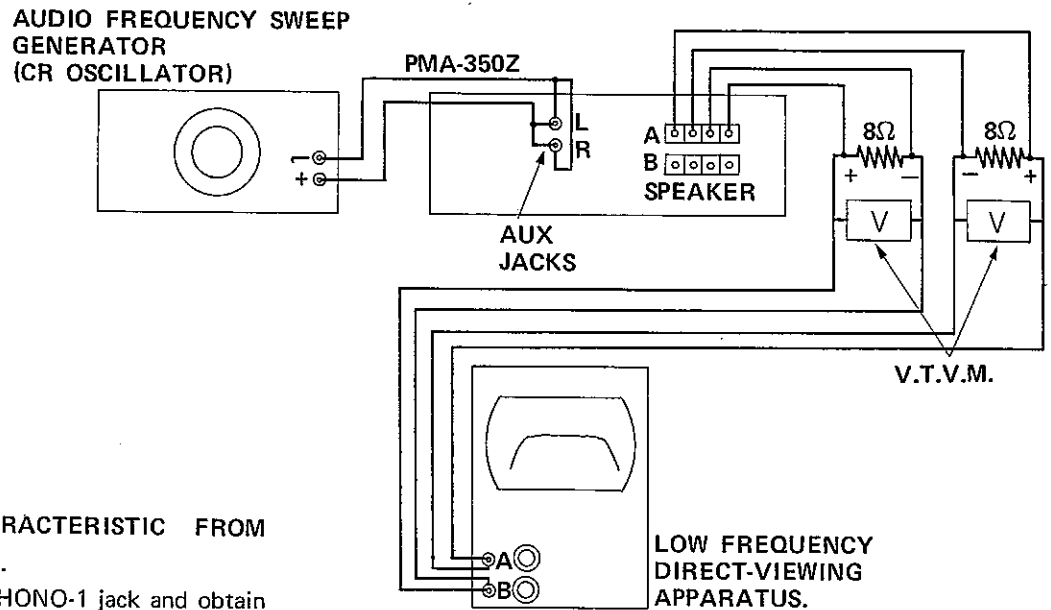

Fig. 23
- B. Figure 23 shows for testing AUX frequency characteristic.